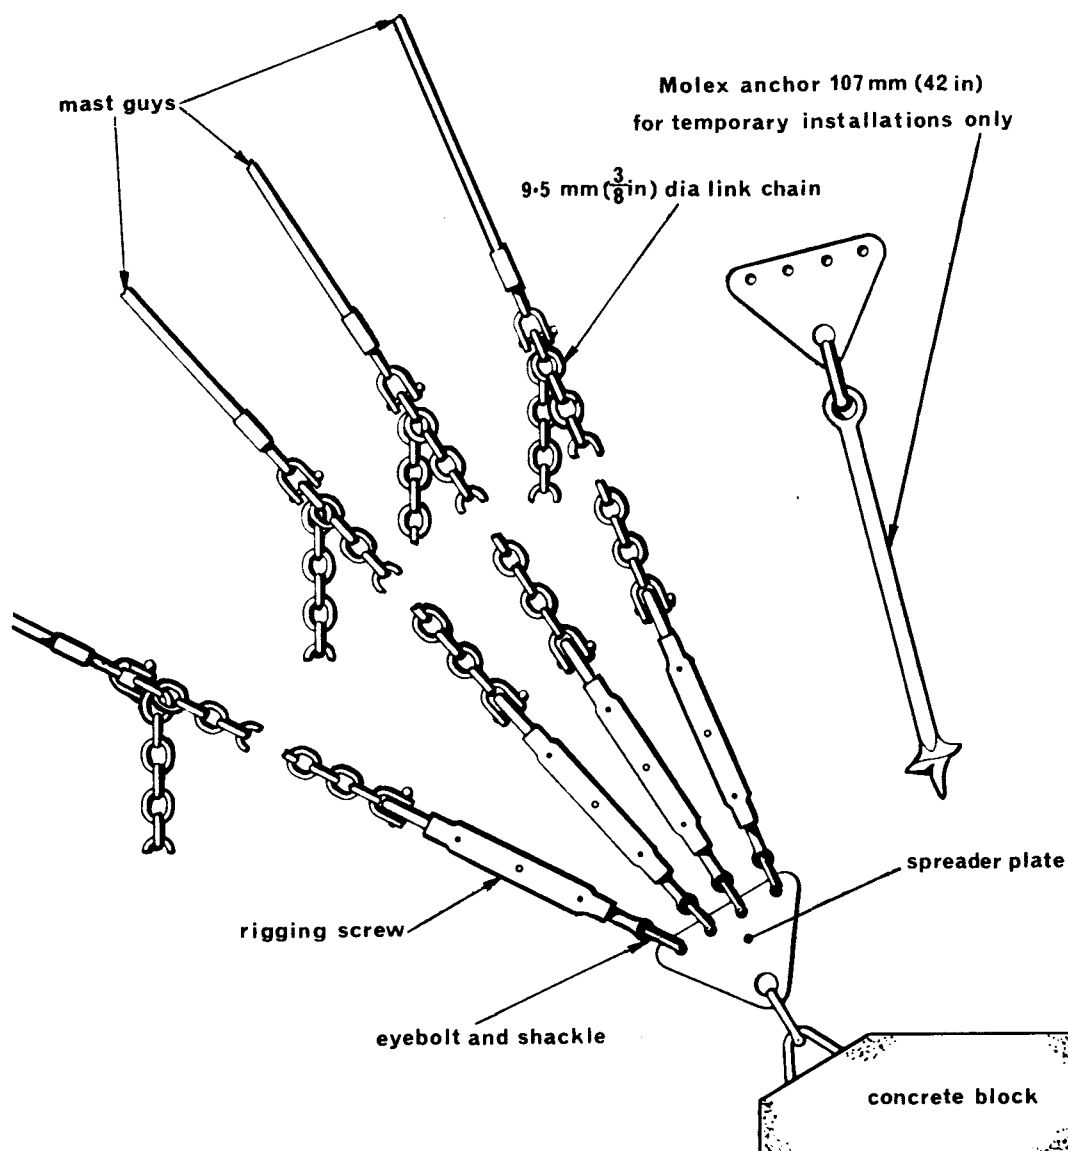

Fig 14.19 Anchoring mast guys
- **Spreader plates.** These spreader plates (Fig 14.19) are triangular in shape with one hole at the apex for securing the plate to the anchorage points. Four holes at the base of the plate provide securing points for the rigging screws and chains.
- **Rigging screws and chains.** The rigging screws and chains (Fig 14.19) are used between the ends of the mast guys and the spreader plates. The galvanized long-link 9.5mm ($\frac{3}{8}$ in) dia chains are each 1.8 metres (6ft) long with one end shackled to the lower end of the guy by 9.5mm ($\frac{3}{8}$ in) 'dee' shackles (*see* Chap 11) and shackle pins. After the mast has been erected, adjustment is made to the guys by selecting alternative links on the chain and tightening the rigging screws
- **Guy anchors 1.07 metres (42in).** These ground anchors are of the helical plate type (Molex), which are driven into the ground by a screwing action. The anchors are used for guy anchorages on *temporary* installations, normally one anchor for each anchorage point (Fig 14.19).